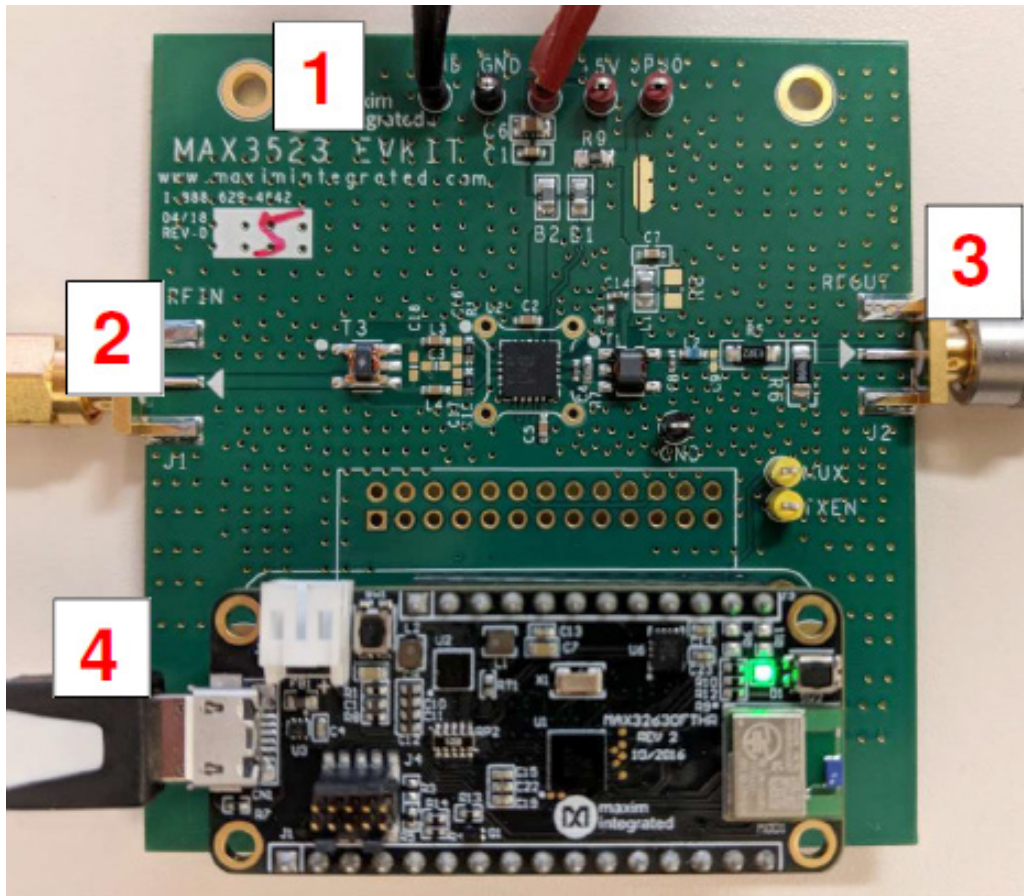

Figure 5. MAX3523 EV Kit Connection
- 1) With its output disabled, set the DC power supply to +5V. If available, set the power supply's current limit to 1000mA. Connect the power supply to the +5V (through an ammeter if desired) and GND terminals on the EV kit, as shown in Figure 5.
- 2) With its output disabled, set the RF signal generator to 85MHz and a power level of -32.5dBm. Connect the signal generator to the SMA J1 RF IN on the evaluation board, as shown in Figure 5.